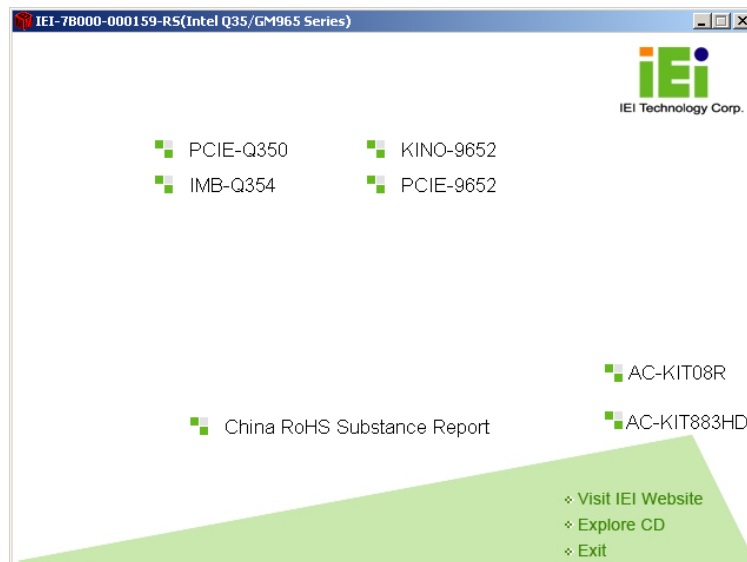

Figure 7-1: Introduction Screen
Step 2: The driver main menu appears (**Figure 7-1**).
Step 1: Select **IMB-Q354** from the list in **Figure 7-1**.